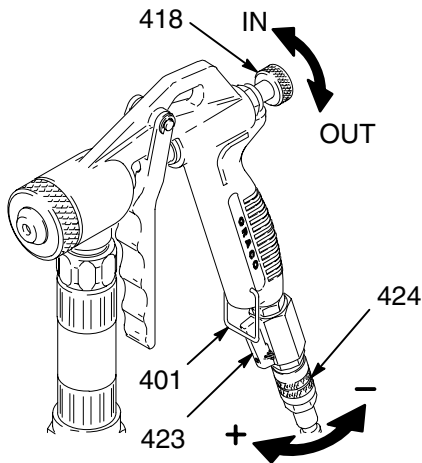

Fig. 13
- Turn the air flow valve (424) to decrease (–).
- Unscrew the fluid knob (418) to increase trigger travel.
Note: Maximum trigger travel occurs when trigger bail (401) can hold trigger in open position. Fig. 13.